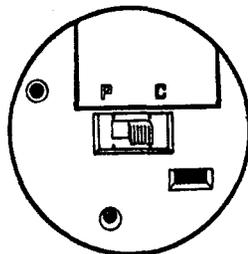

Fig. 1
4. **PBX/CO Switch:** (For UNITY I and II only.) This two-position base-located switch (Fig. 1) should be **set** to the **position** which corresponds to the specific system in use. I.e., P for PBX or C for CO. For optimum performance of your telephone **set**, check to ensure the **switch position** and the application **match**.